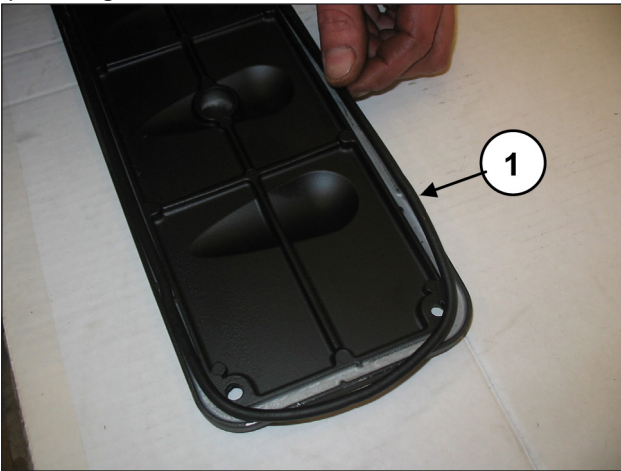
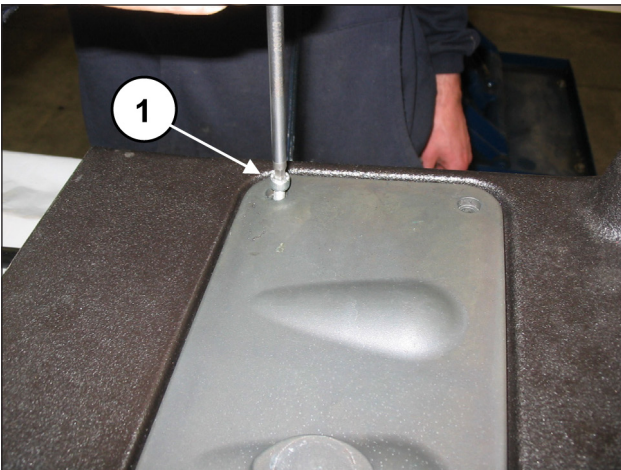

Fig. 163
Fig. 164
Insert the O-ring on the inspection covers (pos. ①, Fig. 163) and assemble the covers with the use of 4+4 M6x14 screws (pos. ①, Fig. 164).